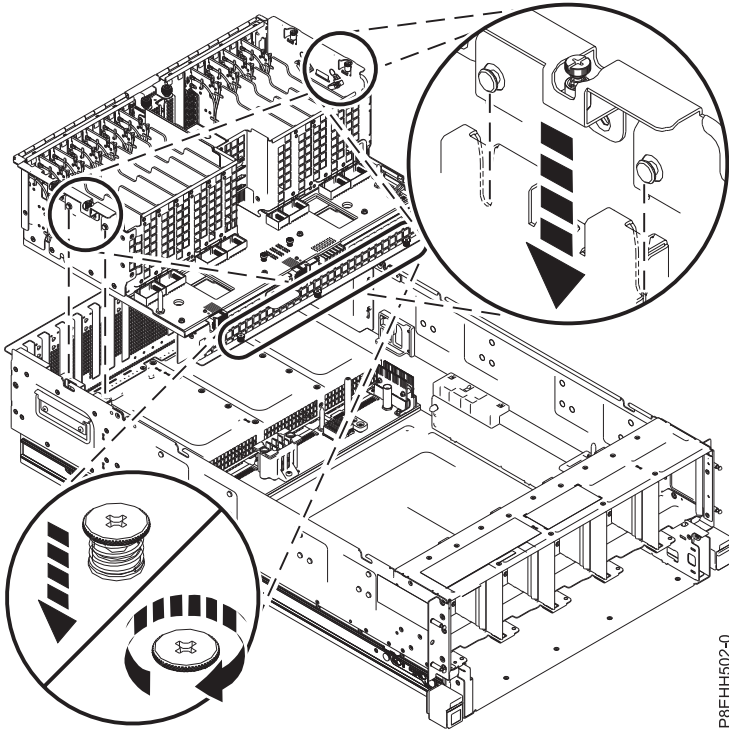

Figure 15. Replacing the I/O backplane
- a. Grasp the sides of the I/O backplane and place it in the system. Tighten the three captive screws in the front of the I/O backplane by using a #1 Phillips screwdriver, as shown in Figure 15 on page 14.